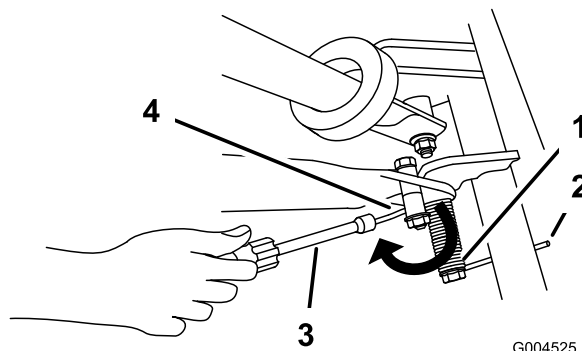

Figure 7
- Place a nut runner over the end of the spring pointing towards the rear and move the end of the spring over and under the kickstand spacer (Figure 7).